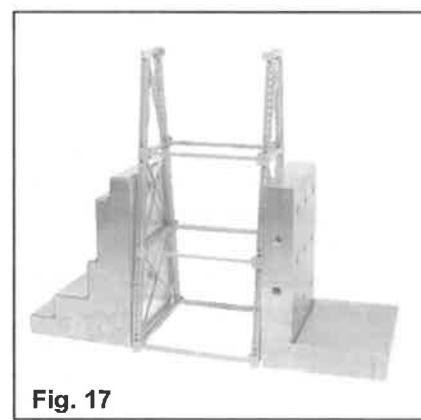
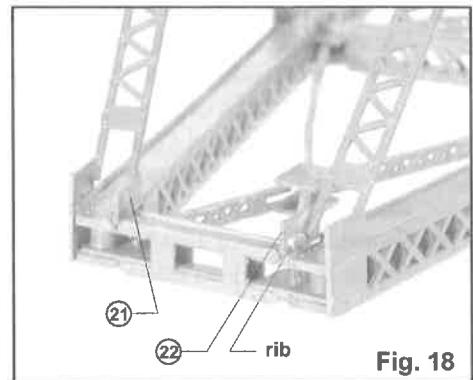

Fig. 17
Fig. 18
Lay a 2nd bent assembly flat on the work surface with the gusset plate extensions up. Hold the tower assembly from step 14 upside down (with the tower struts down) and place the ends of the tower struts on the 2nd bent assembly. Align and cement each tower strut to the 2nd bent assembly as done in step 14. View the tower assembly from above to check the squareness of the bent assemblies to each other. Set the tower upright and use angle plates, a square and weights, or other suitable tools to hold the tower square as the cement dries. See fig. 17.
**16. Cement the tower X-braces part (20) to the tower assembly or substitute truss rods for the X-braces as described in step 8.**
The tower X-braces are assembled in the same manner as the bent X-braces. Follow the instructions in step 6. Part (20) is used for all three stories, on both sides of the tower. Be sure the lattice straps on the X-braces are facing the top of the tower. After positioning but before cementing the X-braces in place, use angle plates, a square and weights, or other suitable tools to hold the tower square. See fig. 17. Once the tower is square and the X-braces are in their correct position, cement the X-braces in place. Note that the top end of the 1st story X-braces can only be cemented to an outside gusset plate until step 17 is completed.
**17. Cement the top tower gusset plates (21) and (22) to the tower.**
Lay the tower on its bent side and cement parts (21) and (22) to the bent assemblies and to the 1st story tower X-braces. Align these parts so the rib is to the inside, down, and toward the top of the tower. Part (21) is cemented on the left side, part (22) on the right. See fig. 18.
**18. Cement the large rivet plates part (14) at the intersection of the two X-braces in all three stories and on both sides of the tower.**